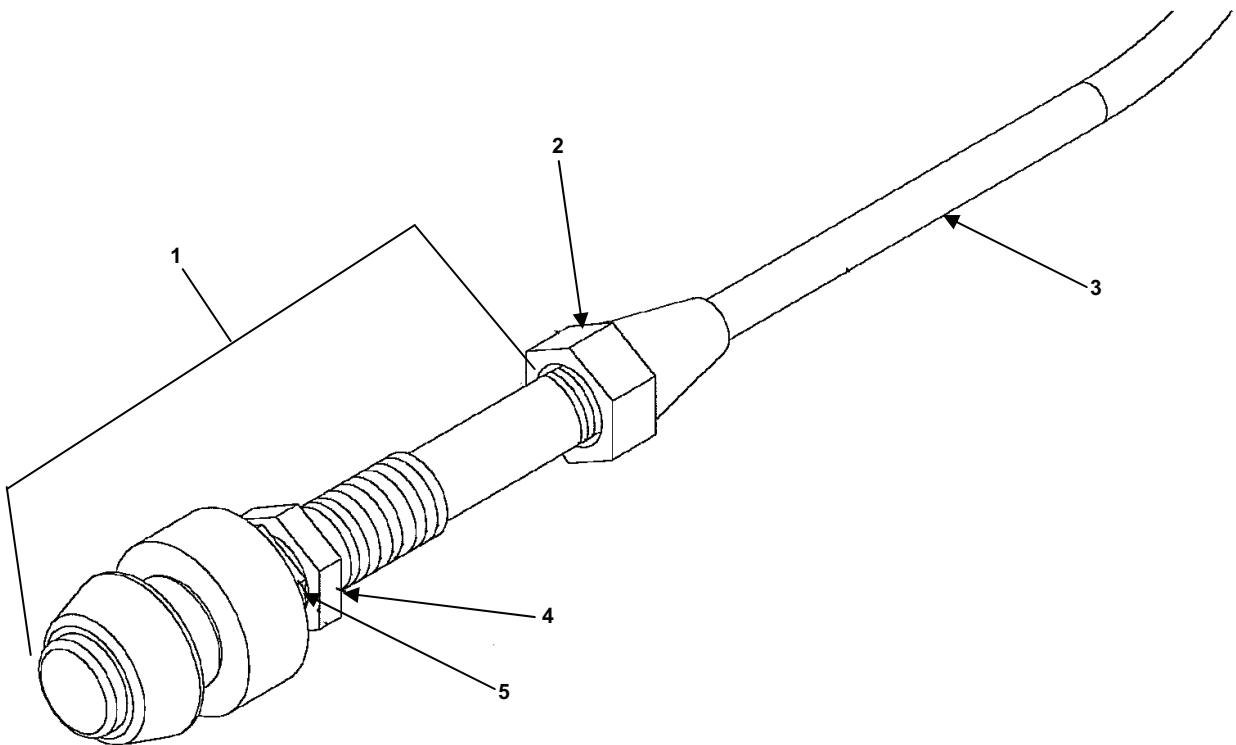

Figure 1. Throttle Cable Assembly.
1. Ensure the throttle cable is pushed all the way in. See Figure 1.
2. Remove cable sleeve retaining nut (Figure 1, item 2) from throttle cable.
3. Pull the cable out from the sleeve (Figure 1, item 3) and disconnect from the adjusting mechanism (Figure 1, item 1).
4. Remove the adjustment mechanism (Figure 1, item 1) by removing retaining nut (Figure 1, item 4) and washer (Figure 1, item 5).